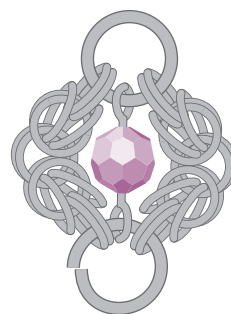

FIG. 3
5. Thread another large open jump ring through the opposite ends of the Byzantine chains and bead component joined in Step 4. To create a stand-alone unit, close this large jump ring. Do not close the jump ring if connecting units to construct a chain (FIG. 3).